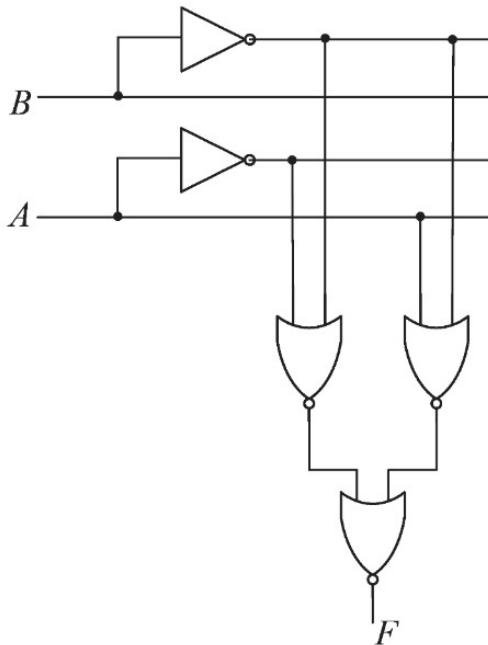

Fig. 3.18
34. The logic block shown in Fig. 3.18 has an output  $F$  given by \_\_\_\_\_